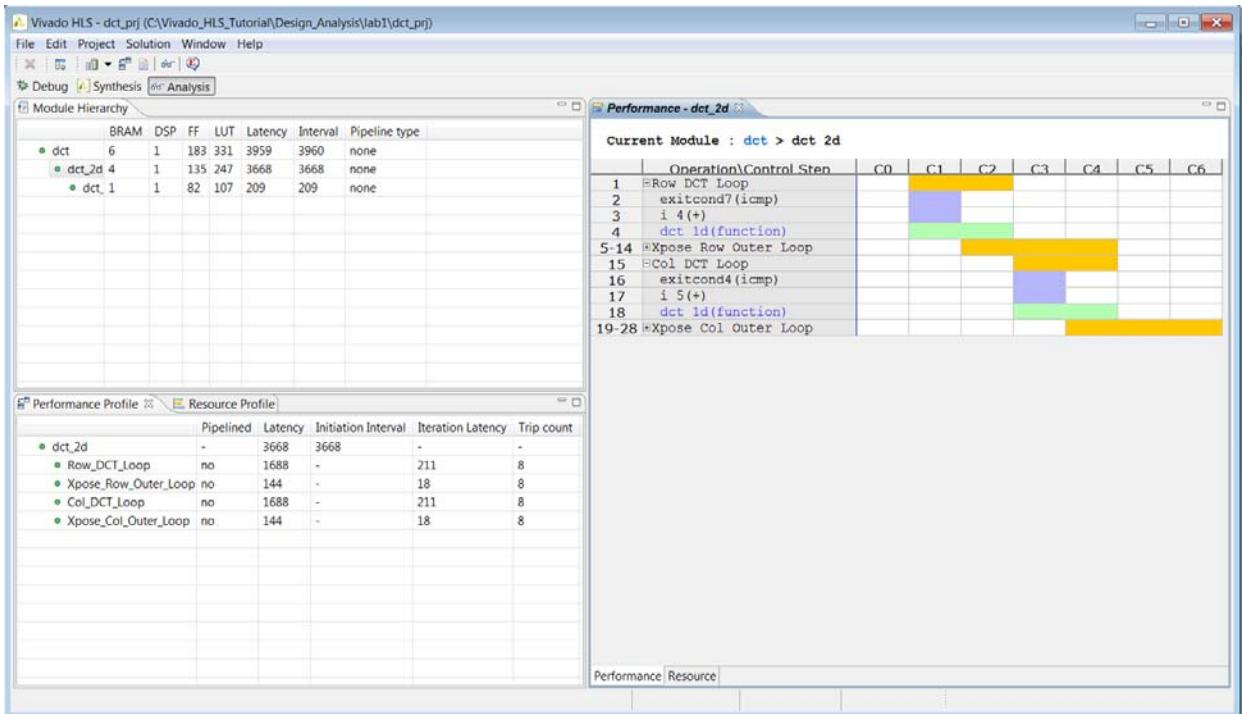

Figure 6-11: DCT_2D Performance View
6. In the **Module Hierarchy** pane, click the function `dct_2d` to navigate into the view for this function (Figure 6-11).